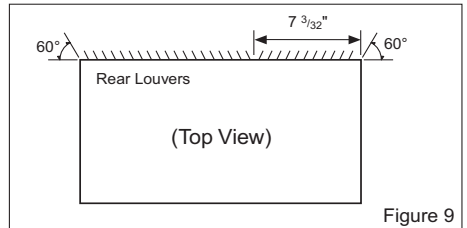

Figure 9
- 1** Redirect the louvers at the back of the wall sleeve to 60° angle as shown in the Figure 9. The use of pliers is recommended.